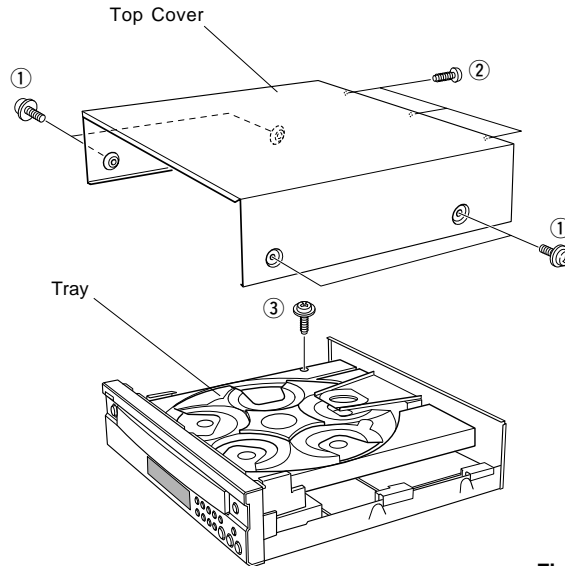

Fig. 1
- a. Remove 4 screws ( ① ) and also 3 screws ( ② ) in Fig. 1.
- a. Remove 1 screw ( ③ ) in Fig. 1.